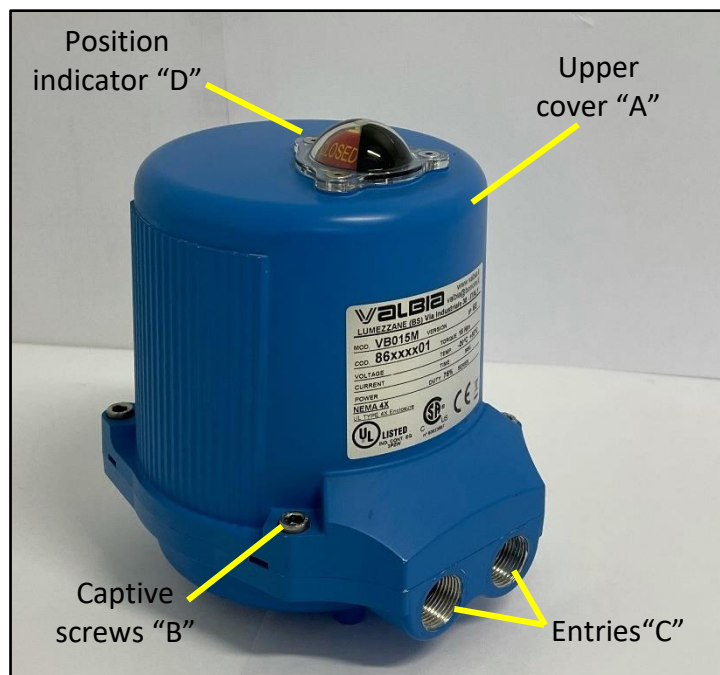

Fig.1 External view of the actuator
- After making proper connection, please proceed to the assembling of cover "A" (Fig.1), by paying close attention not to hit any electronic parts;